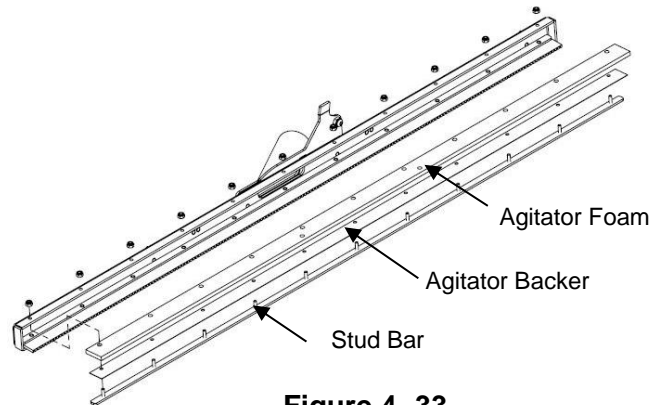

Figure 4- 33
1. Remove the 11 nuts as shown in Figure 4- 33. Inspect the stud bar for any damage and replace if necessary.
2. Replace the agitator foam and agitator backer then reassemble as shown in Figure 4- 33. Reinstall the